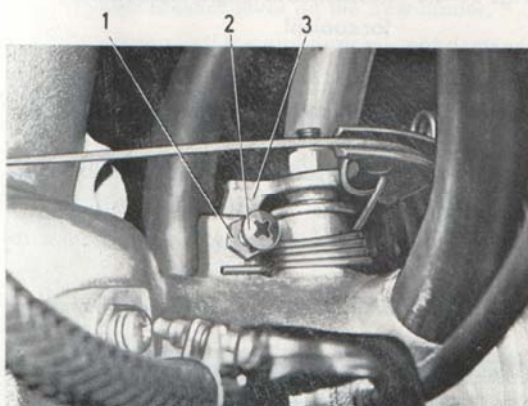

Fig. 2—44. Stop screw for throttle valve
- Slacken the hose clips and disconnect the hose. Connect the pressure gauge as shown in Fig. 2—43. Remove the pinchers.
- Slacken the locknut for the stop screw on the throttle valve, (see 1, Fig. 2—44) and screw out the screw a couple of turns so that it does not lie against the stop on the throttle valve spindle. Check to make sure that the valve is completely closed.